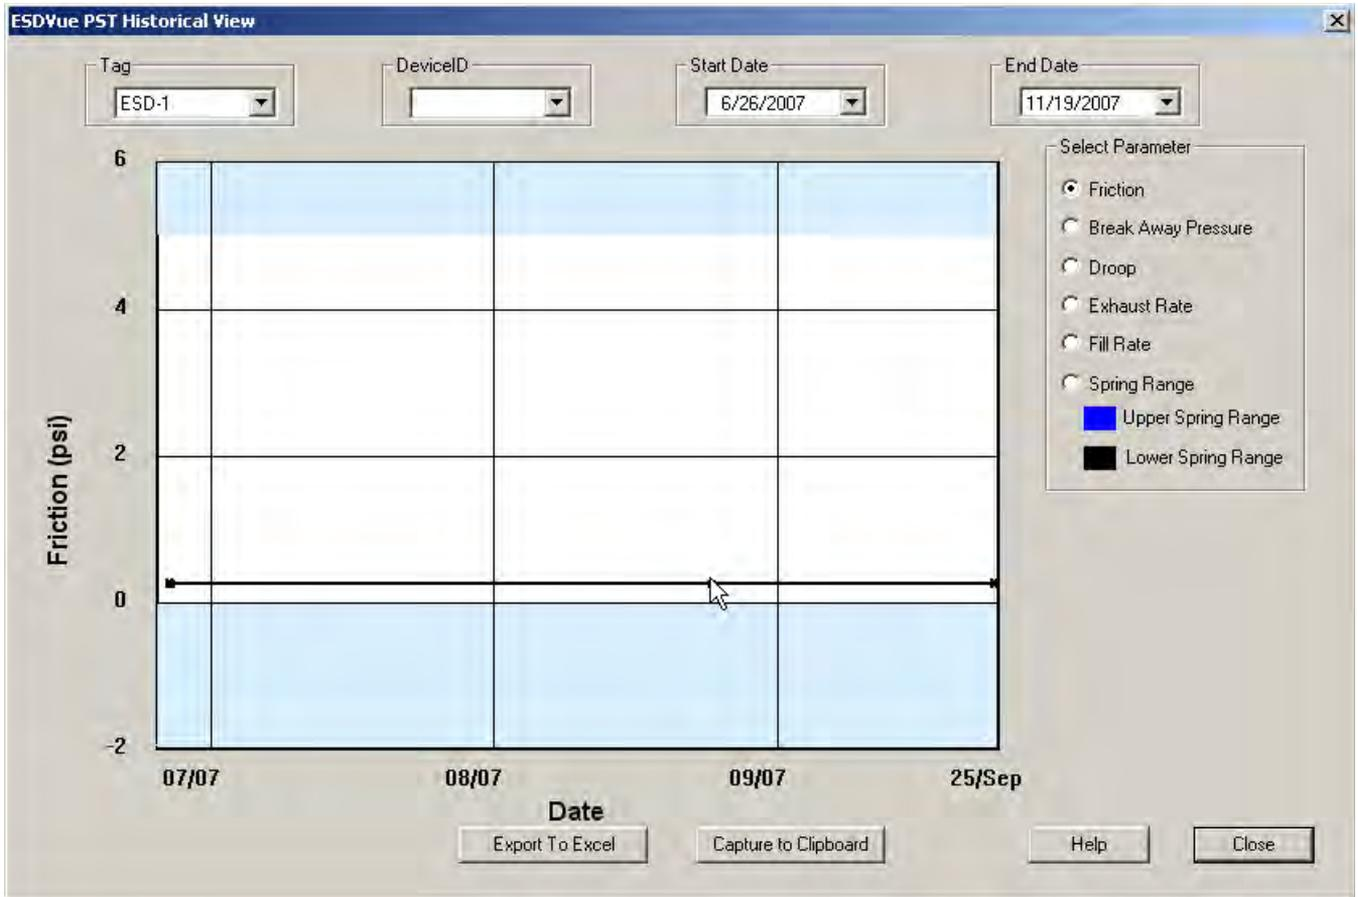

Figure 298 Selecting a Historical View Data Point
2. Double-click on the date's data point (Figure 298).